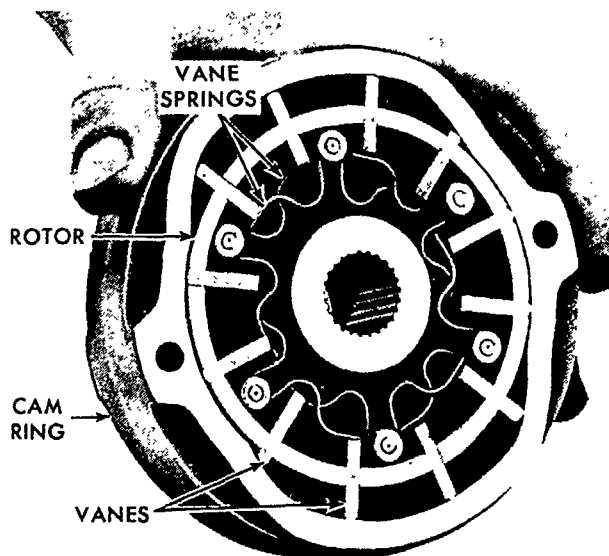

Figure 93
11. Separate the rotor from the cam ring, Figure 93, being careful, as the vanes are spring loaded against the cam ring. Remove the vanes.